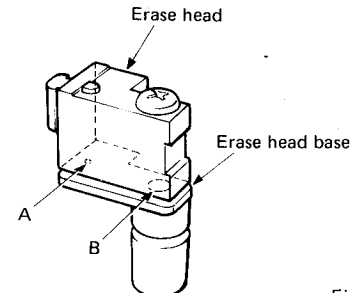

Fig. 8
- ① Check the capstan spindle for tilt. If it has a tilt, try tilting the record/playback head in the same direction.
- ② If the tape flapping exists right before the erase head, eliminate it by tilting the erase head with a spacer inserted A or B between the erase head and erase head base as shown in the Fig. 8.
- ③ Check for parallelism of the tape guide of the supply pinch roller and the capstan. If they are not parallel, replace the supply pinch roller assembly.
- ④ Check for parallelism of the take-up pinch roller and the capstan. If they are not parallel, replace the take-up pinch roller assembly.